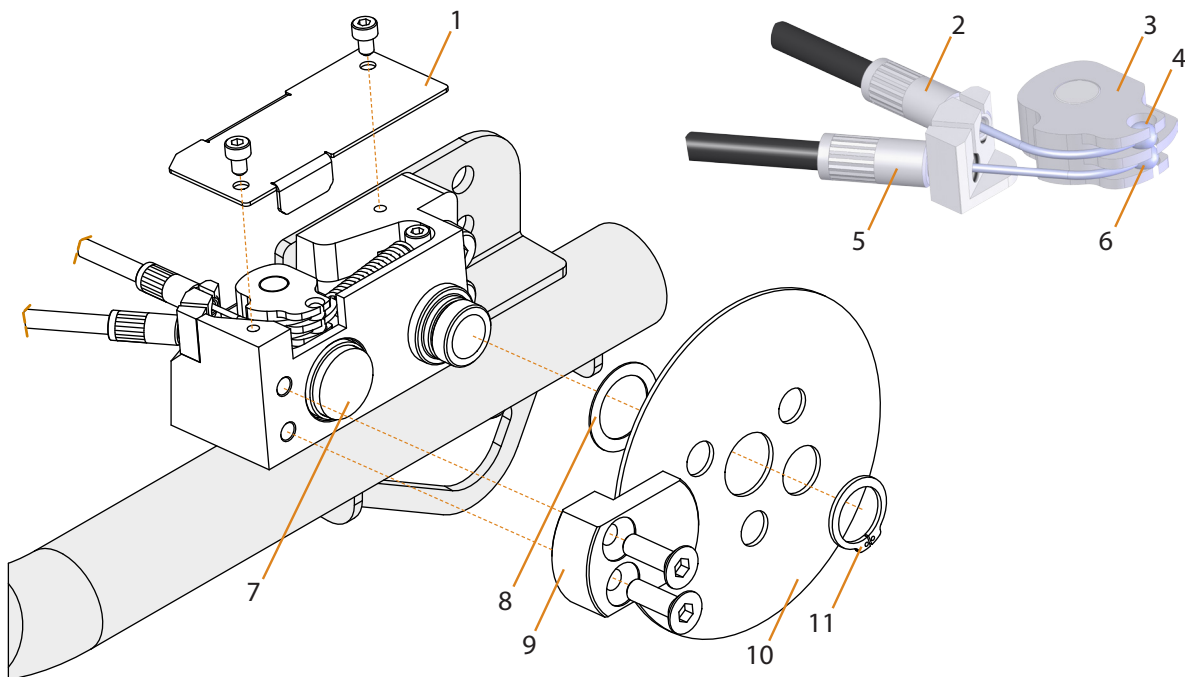
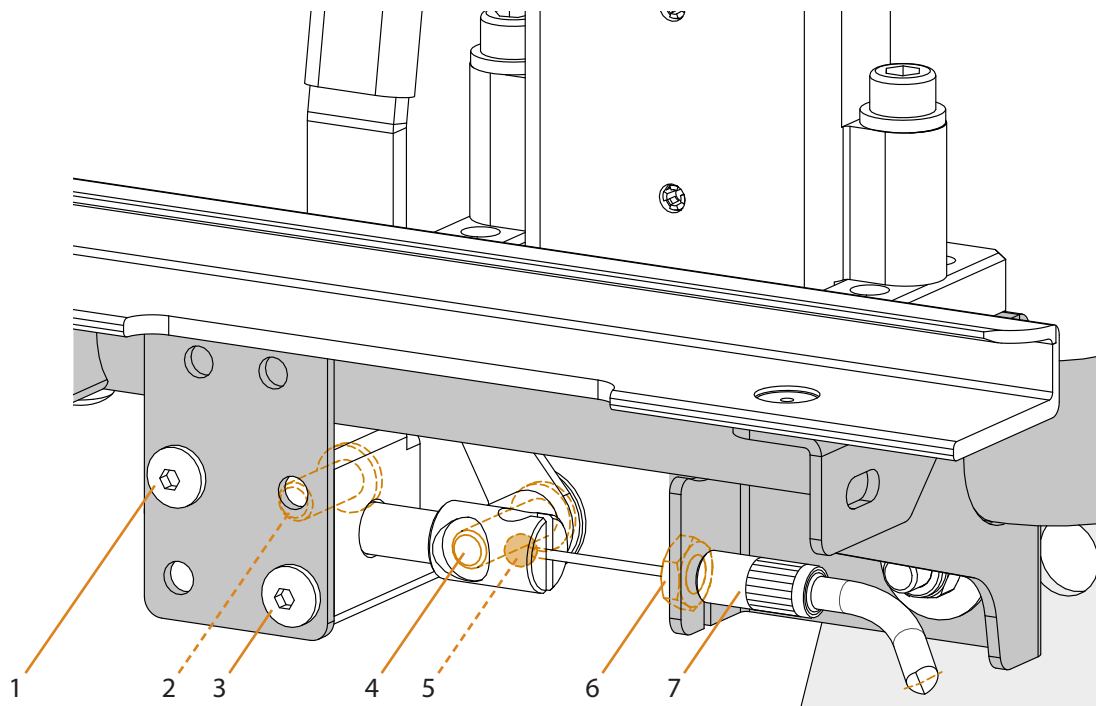

Figure 15. Disc brake system
Figure 17. User brake (view from inside the seat frame)
The disc brake system is integrated with the wheel mount (Figure 15). The brake consists of a disc (10) with 3 holes that connect to the drive wheel. The brake disc is pushed against the brake pad (9) by a padded piston (7). This action is controlled by the brake handles on the push bar and by the user brake handles (for wheelchairs equipped with user brakes). There are separate cables for each brake handle. The cables are connected to an actuating plate (3) which drives the brake piston. The brake cables are of fixed length, with adjustment screws and nipples at each end.
2. Remove the 2 screws and the cover plate (1 in Figure 15) from the wheel mount.
4. Unscrew the end sleeve of the cable (2 in Figure 15) from the wheel mount. Pull gently outward and sideways to free the wire from the guide. Turn the wire such that the nipple (4) can be removed from the actuating plate (3).
7. Fit the nipple (4 in Figure 15) into the actuating plate (3), turn it up so that the wire can be placed in the wire guide, screw in the end sleeve (2) fully.
1. Remove the drive wheel and then unscrew the brake pad (9 in Figure 15).
2. Remove the circlip (11) with circlip pliers and remove the brake disc (10). Note the plastic washer (8) that must always be assembled between the brake disc and the wheel bushing.
3. The brake piston (7), brake disc, and brake pad can now be replaced with new parts.
The user brakes are in left-hand and right-hand versions and are attached to the seat frame with 2 screws from the inside (1 and 3 in Figure 17).
If the brake lever needs to be replaced, both the lever and the brake arm must be replaced as they are riveted together. Remove the screws (2 and 4 in Figure 17). See also page A7.1 in Spare Parts, doc nr 96740-1.
2. See Figure 17, the assembly of the user brake as seen from inside the seat frame. Fully unscrew the nut (6). Pull the end sleeve (7) back so it can be pulled free from the bracket.
3. Remove the nipple of the wire (5) from the brake lever unit.
4. Unscrew the end sleeve (5 in Figure 15) from the wheel mount. Pull gently outward and sideways to free the wire from the guide. Turn the wire such that the nipple (6) can be removed from the actuating plate (3).
6. Fit the nipple (6 in Figure 15) into the actuating plate (3). Then screw in the end sleeve (5).
7. Fit the nipple (5 in Figure 17) into the brake unit. Fit the end sleeve (7) into the wire bracket and tighten in place with the nut (6).